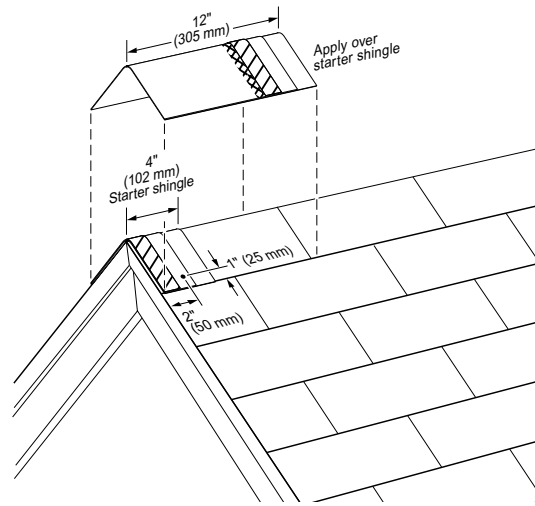
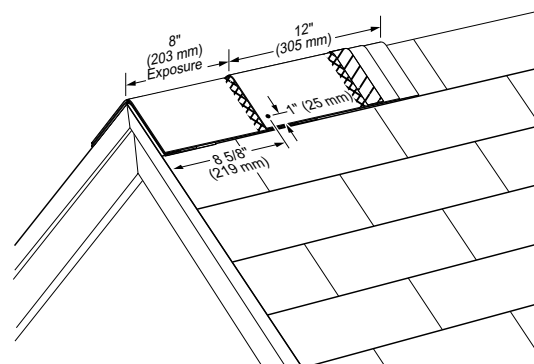

Figure 17-11: Apply a full cap shingle over the starter shingle.
Figure 17-12: Install cap shingles at an 8" exposure and fasten with one nail on each side as shown.
**IMPORTANT:** Use TWO nails to fasten each shingle. Fasteners must be minimum 1 3/4" (45 mm) long. For the starter shingle, place fastener 1" in from each side edge and about 2" up from the starter shingle's exposed butt edge, making sure fastener goes 3/4" into the deck or all the way through the deck. (see Figure 17-11). For each full Cedar Crest shingle, place fasteners 8 5/8" up from its exposed butt edge and 1" in from each side edge (see Figure 17-12).
Apply primary roofing up to hip or ridge on both sides of roof and trim flush. Ensure that the Cedar Crest shingles will adequately cover the top course of the shingles on both sides of the hip or ridge. Prepare a 4" "starter" shingle by cutting off the lower 8" color granule portion of one Cedar Crest shingle. Apply the 4" starter piece with raised overlay edge over the bottom corner of the hip or to either end of the ridge, overhanging the corner or end by approximately 1/2" and bending the starter shingle along its centerline to form into place (see Figure 17-11). Install a nail on each side about 2" up from the starter shingle's exposed butt edge and 1" in from each side edge of the shingle.
Then apply a full 12" x 12" piece over the starter, bending the shingle along its centerline and forming it into place over the hip or ridge, flush with the bottom and side edges of the starter shingle. Fasten with two nails minimum 1 3/4" long with one nail on each side of shingle 8 5/8" up from the butt edge and 1" in from each side edge (see Figure 17-12).